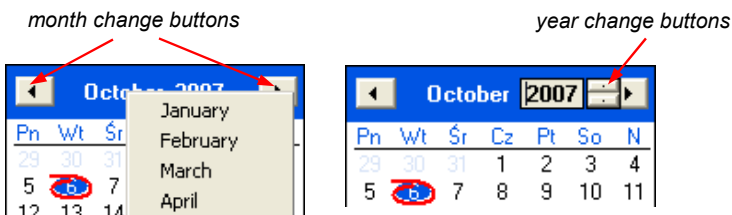

Figure 4.5. Changing months and year
- 2) The date can be change by clicking onto any day in the calendar. Buttons at the top part of the calendar are used to change months (Figure 4.5). After clicking on the current year located to the right from month's name an edition window and buttons for changing the year are displayed (Figure 4.5).